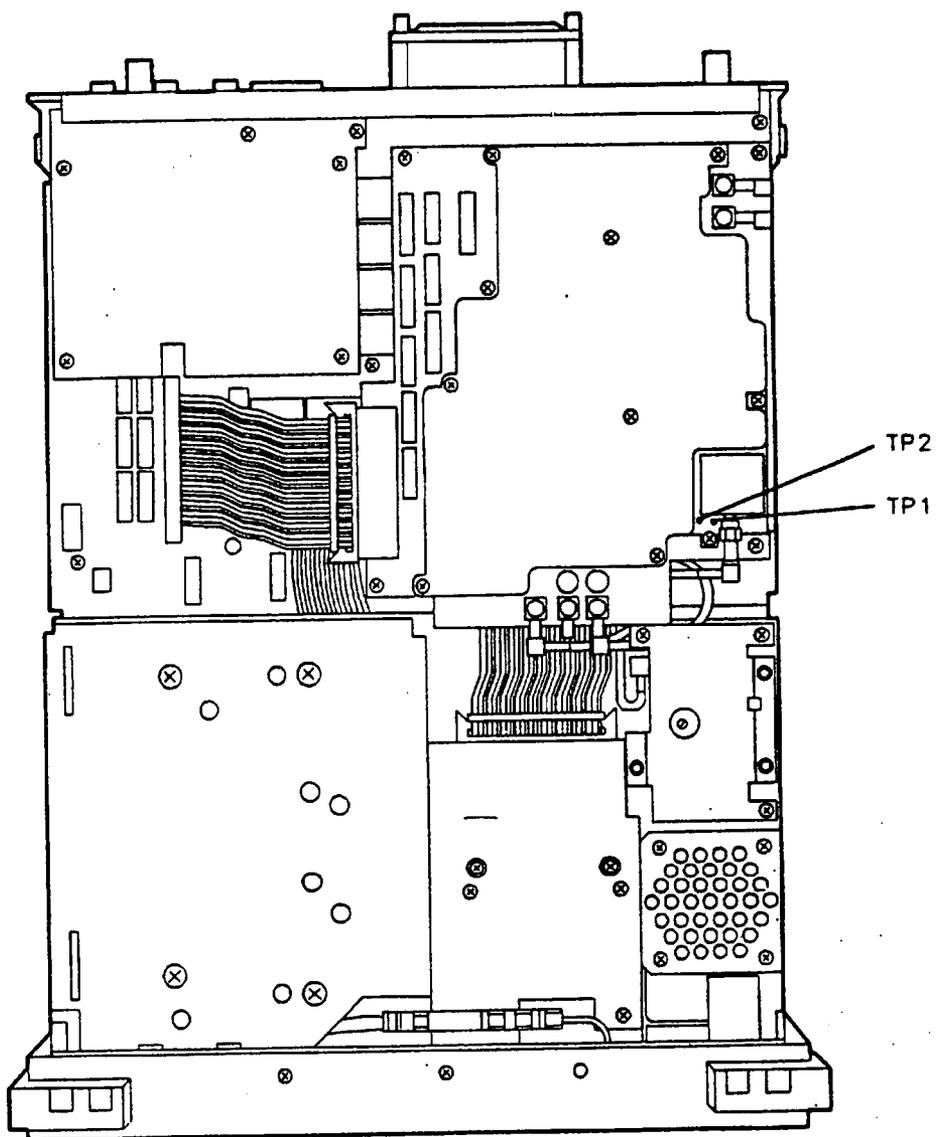

Figure 2-6. A25 Counter Lock Assembly Test Points
4. Connect the DMM from chassis ground to A25TP1. Refer to Figure 2-6.